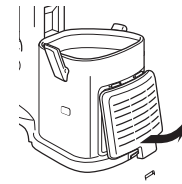

Fig. 22
- 1 To access the HEPA filter, lift the tab on the filter cover and remove the cover. **(Fig. 22)**